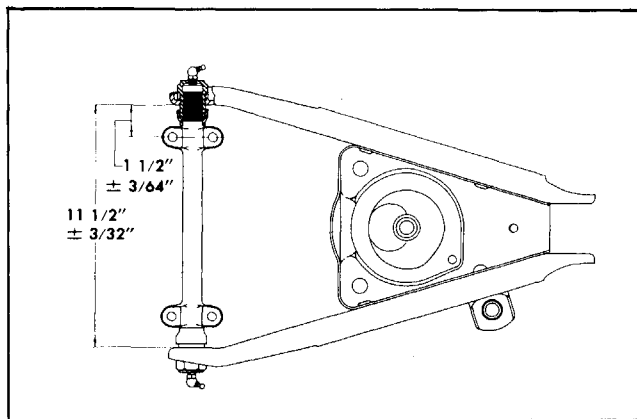

Fig. 3-18 Correct Installation of Shaft
e. Check to see that distance between inner faces of shaft ends of control arm is $11\frac{1}{2}$ " plus or minus $\frac{3}{32}$ ". Also check to see that distances from center of pivot shaft bolt holes to inside faces of arm are equal at each end (Fig. 3-18). Turn pivot shaft in arm to centralize if distance is not equal.